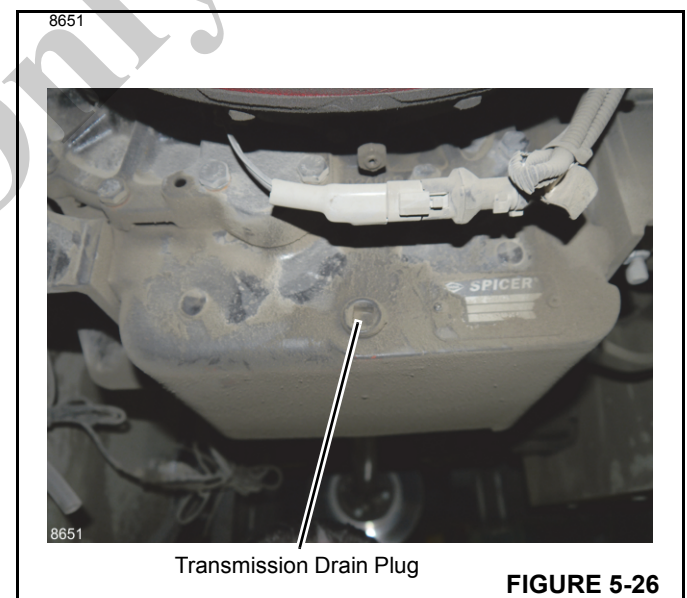

FIGURE 5-26
2. Place the container under the drain plug and remove the drain plug (Figure 5-26). Drain any oil left in the transmission into the container. Install the drain plug.